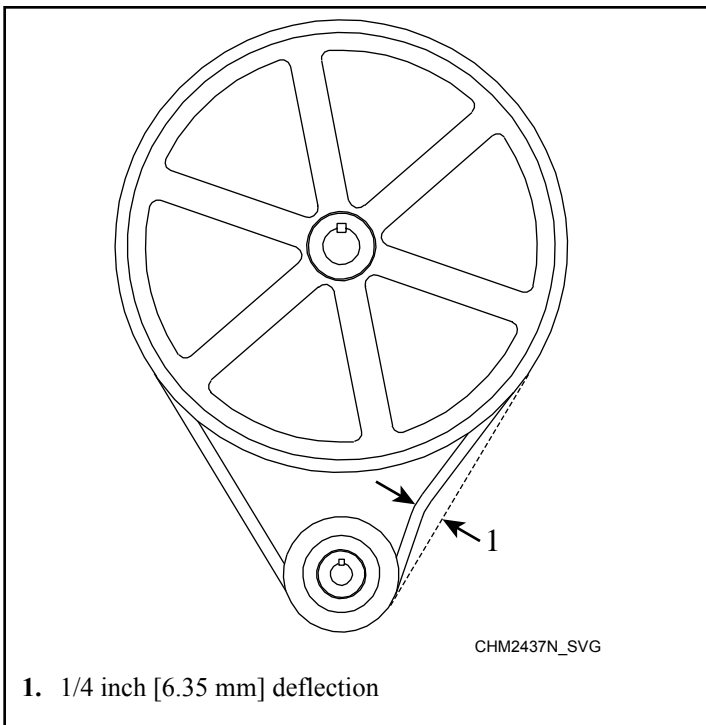

Figure 46
- **Burroughs Gauge (20 models with 1 HP only).** Use a Burroughs belt gauge to obtain proper tension. Proper belt tension is obtained when belt can be deflected from normal position (refer to *Figure 46*) when moderate pressure of is applied to the point midway between pulleys.